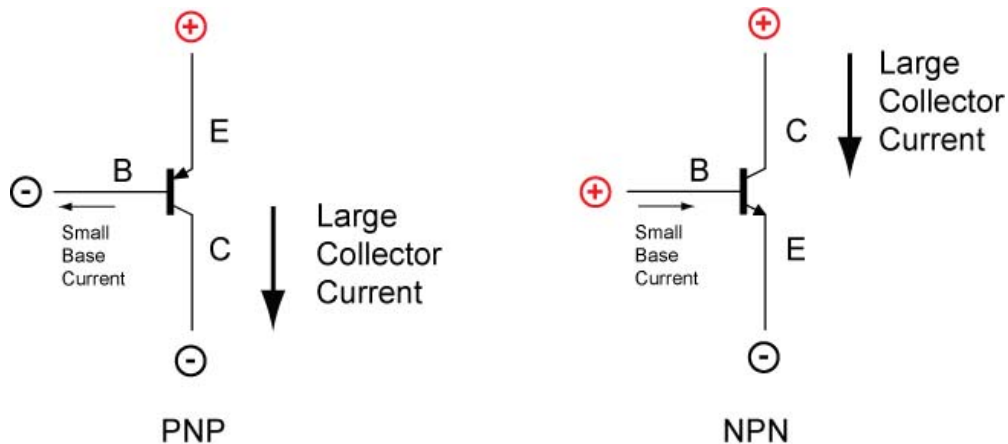

Figure 16: A Small Base Current Controls a Large Collector Current
- A BJT is a current amplifier so it can be used as a controlling device. A small controlling current flowing through the base (for example 1 mA) can control a much larger current flow through the collector (often 100 mA or more). See Figure 16.
- It was noted earlier that a current of 1 mA flowing through the base of a transistor can control a collector current of 100 mA or more (current gain (symbol h_{fe}) = $I_C/I_B = 100\text{mA}/1\text{mA} = 100$). Although this is correct for at lower collector currents, the gain reduces at higher collector currents. The graph in Figure 16 illustrates the point. The graph is a plot of the base current, collector current, and collector-emitter voltage in the saturation region of an MPS2222A which is the Motorola model of the 2N2222A NPN transistor in the TO-92 case. At the **red dot**, $I_C = 150\text{mA}$, $V_{CE(\text{SAT})} = 0.3\text{V}$, and the base current is 1.5 mA; the current gain = $150\text{mA}/1.5\text{mA} = 100$. At the **blue dot**, $I_C = 500\text{mA}$, $V_{CE(\text{SAT})} = 0.3\text{V}$, and the base current is 15 mA; the current gain = $500\text{mA}/15\text{mA} = 33$. To ensure that a transistor is driven into saturation, a current gain of 10 ($I_C/I_B = 10$) is used when determining component values.